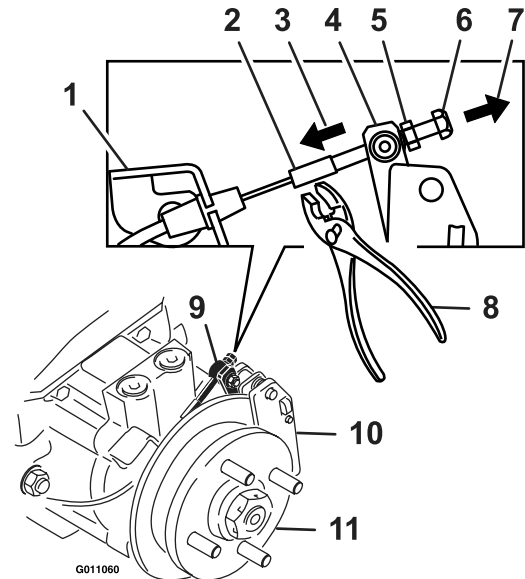

Figure 1
9. Hold the threaded rod end with a tool and loosen the lock nut away from the standard nut (Figure 1). Do Not allow the cable to turn when the nuts are being loosened.
10. Remove all slack from cable by pulling on the threaded rod end (locknut) with a medium amount of force. Using the other hand and fingers only, push the caliper lever arm to engage the brake pads on the rotor until the lever stops. While holding the lever at the stopped position, pull the slack out of the cable threaded end through the swivel. Spin the standard nut against the swivel to hold the caliper lever arm in place (Figure 1).
16. Once step 11 is achieved, hold the threaded rod end with a tool and tighten the lock nut against the standard nut. Do Not allow the cable to turn when the nuts are tightened (Figure 1).